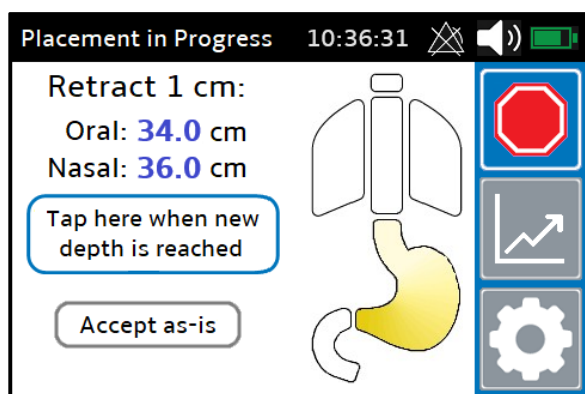

Figure 13: Retract FT & Retry Stomach Check
- If Gastric Insertion mode is selected and the feeding tube is inserted too deeply into the stomach, the monitor tells the user to retract the FT slightly then retry the Stomach Check (Figure 13). This retraction is intended to position the tip at ideal depth for feeding and for reflux detection. However, if the clinician is confident that the placement depth is fine as-is and retraction is undesirable, the "Accept As-Is" button allows the user to bypass further stomach check attempts and continue to the final step (standard of care verification).